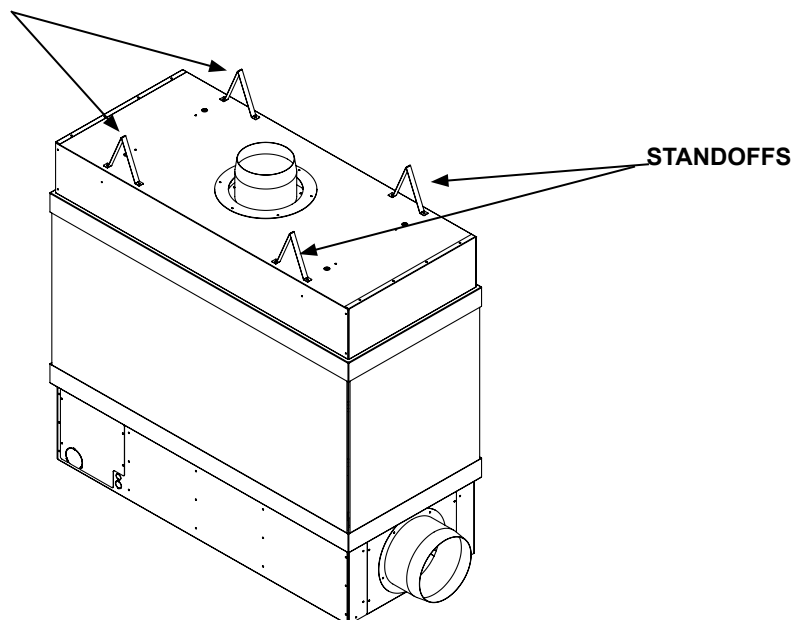

Figure 4A.3
STEP 1: Refer to Figure 4A.1
STEP 2: Refer to Figure 4A.2
Fold the center of the standoff up and both ends out at the perforated lines. Using Figure 4A.2 for reference, locate the second pre-installed screw on the firebox top at each standoff location. Remove the screw, pivot the folded standoff into location and re-install the screw to secure the standoff. Tighten up the screw that was loosened in Step 1.